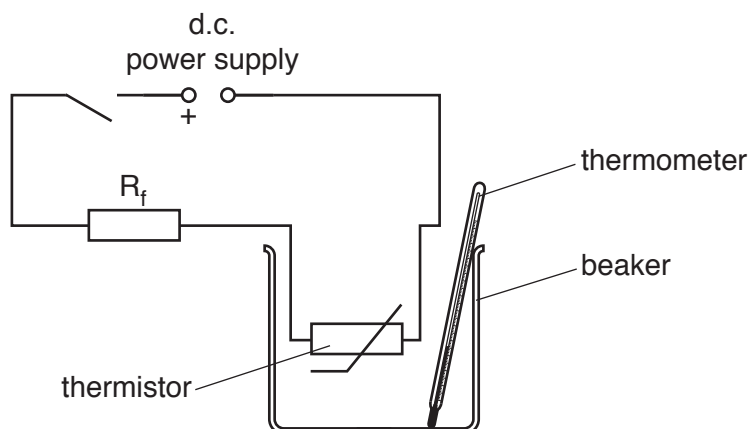

Fig. 4.1
2. The $47\ \Omega$ fixed resistor is part of a circuit shown in Fig. 4.1 which must be set up by the Supervisor. The resistor should have a power rating of $0.5\ \text{W}$ or higher. The resistor should have suitable terminals to enable further connections to be made.
5. At the changeover the Supervisor should ensure that the beaker containing the thermistor has no water in it, that sufficient hot water is available for the next candidate and that the circuit is restored to the arrangement shown in Fig. 4.1 with the switch open.